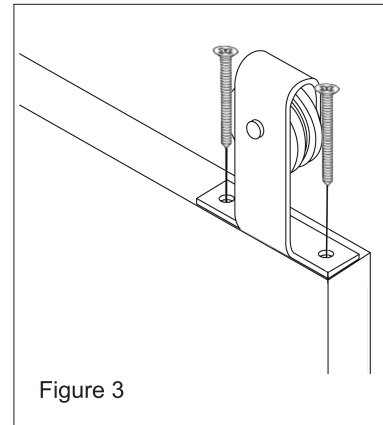

Figure 3
5. Attach the hanger to the door using two hanger fastener screws (provided). Repeat the process on the opposite end of the door (Figure 3).
7. Drill out the marked holes using a drill with a 1/4" drill bit (Figure 3).